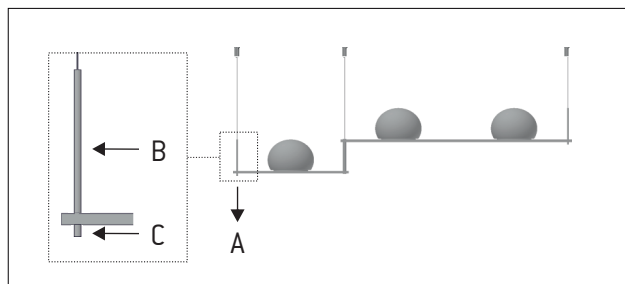

Figure 4
4 - Find the stem (A) located at the end of the lamp where there is no electrical wire. It is formed by pieces (B) and (C). Figure 4.